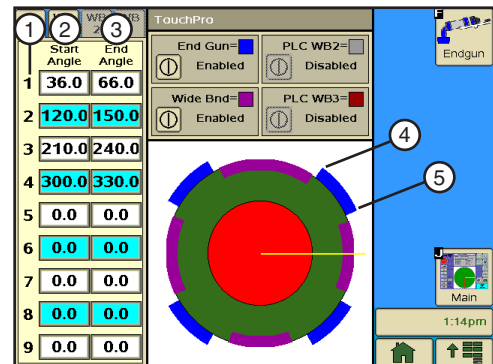

Figure 72-1 1. Sequence Number
1. Push **Options**, **Endgun**, **EG** to display the End Gun screen. Refer to Figure 72-1.